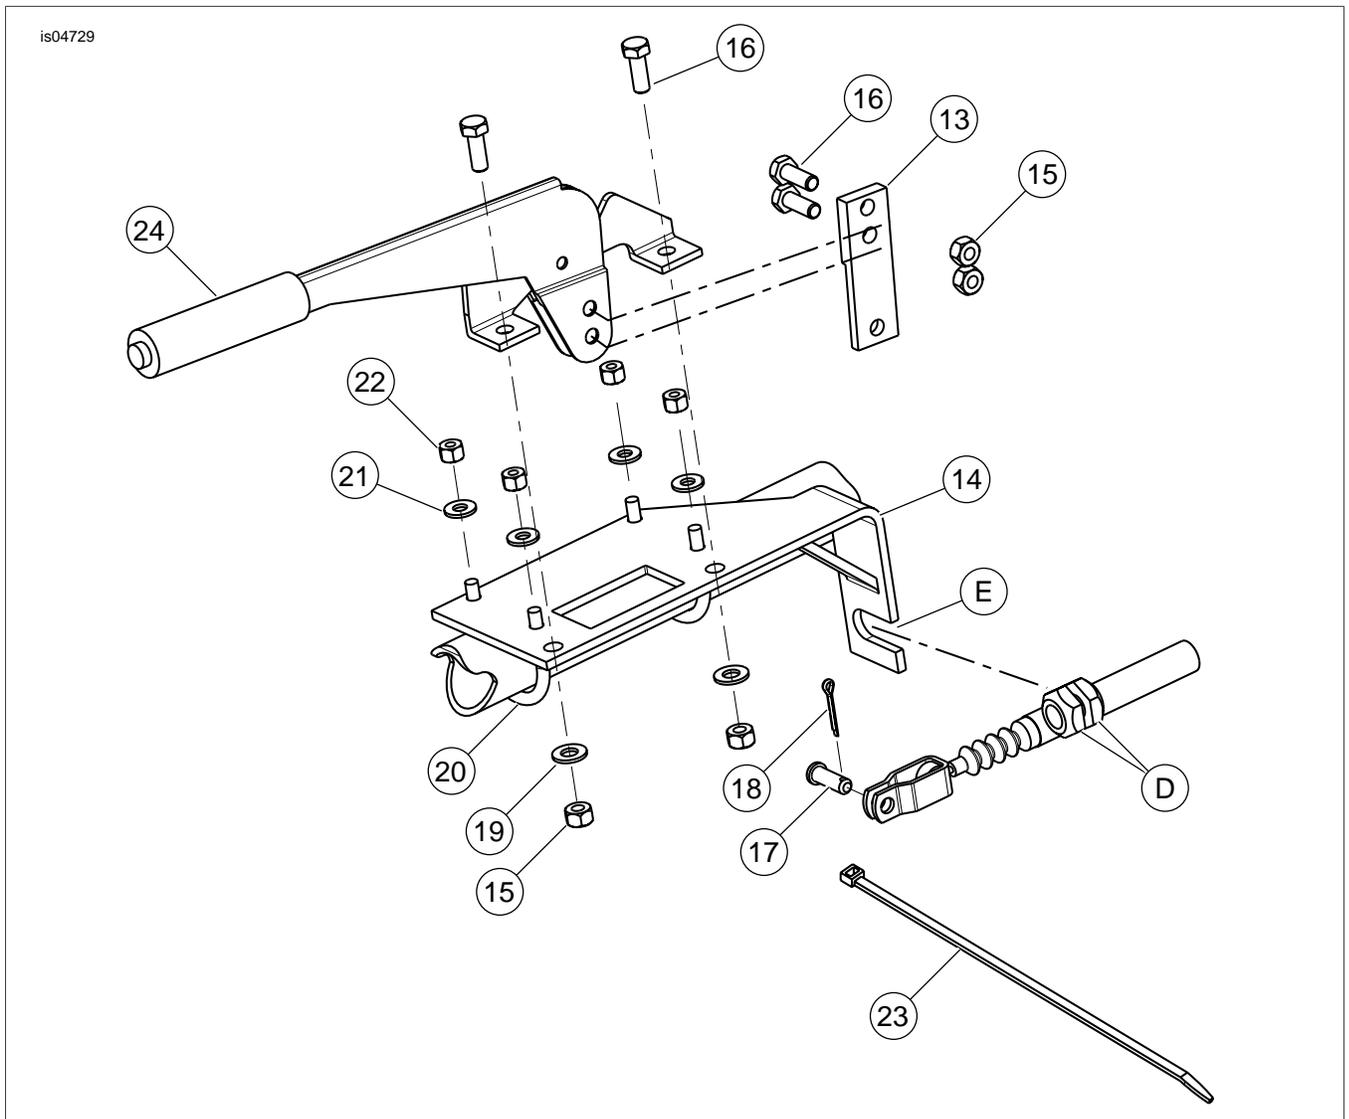

Figure 9. Service Parts: Lever Assembly and Mounting Bracket
1. See Figure 9. Attach handle extension (13) to brake lever assembly (24) with bolts (16) and locknuts (15).
- Attach the park brake lever assembly (24) to bracket (14) with two bolts (16), washers (19) and locknuts (15) supplied in kit.
- See Figure 9. Attach the brake cable clevis to the brake lever extension (13) with clevis pin (17) and secure with cotter pin (18).
1. See Figure 9. Remove cotter pin (18) and clevis pin (17) to disconnect the parking brake cable from parking brake assembly.
5. See Figure 9. Reconnect parking brake cable to parking brake assembly by installing clevis pin (17) and cotter pin (18). Loosen and adjust the two brake cable adjusting nuts (one on each side of bracket slot) until there is 1/8-inch cable free play. Tighten adjusting nuts.